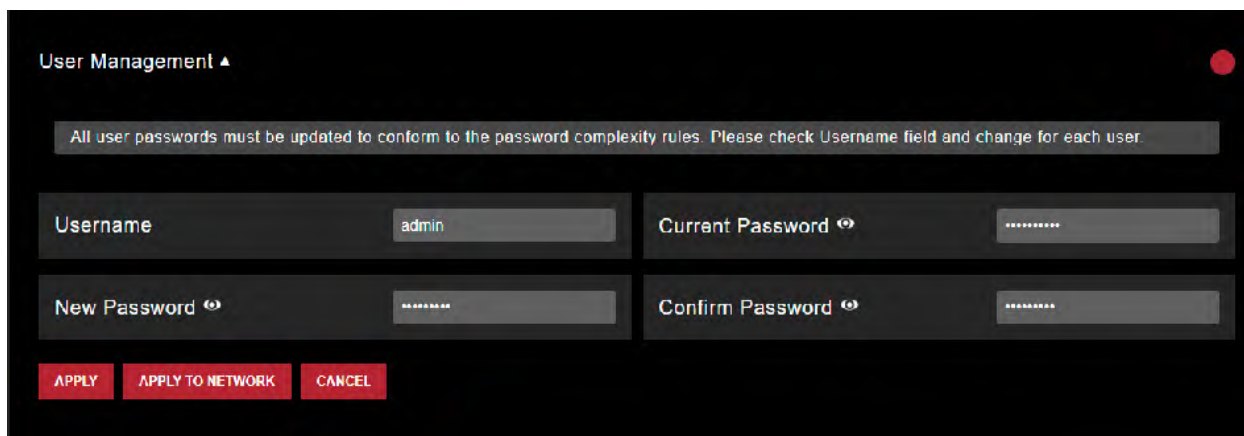

Figure 103 FIPS (user management)
5. A list of setting changes will need to be completed before FIPS can be considered as active. Figure 103 list all items that need to be completed. The first item is password complexity. Note that each section will be highlighted by a red dot in the top right corner which indicates the step has not yet been completed. Configuring each section and applying or saving it correctly will change the color of this indicator to green, letting the user know to move onto configuring the next section.